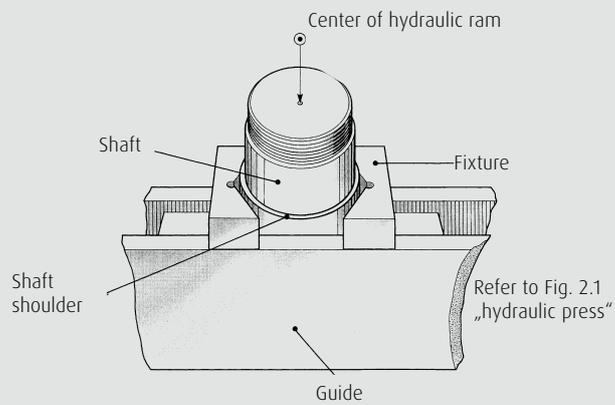
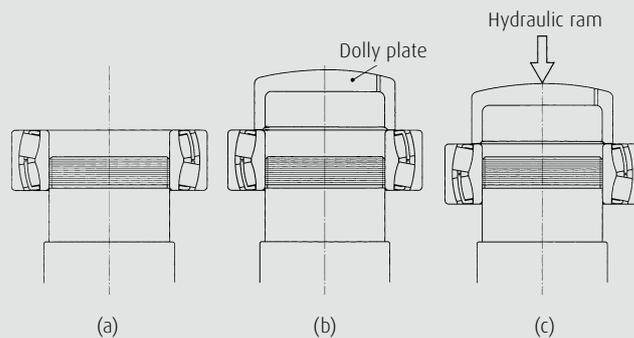

Fig. 6.2 Press method (fixing of shaft on table of press)
Fig. 6.3 Push-in of bearing with press
## 6.2.2 Press Method (Fig. 6.2 and Fig. 6.3)
1. Set upright the shaft and place its lower end on the table of a hydraulic press so that the shaft center mates with that of the ram of hydraulic press. Adjust the height of the guide of hydraulic press and fix the shaft at the lower part of its shoulder. **(Fig. 6.2)**
5. Insert the bearing so that the inner ring's chamfered part touches the dolly plate **(Fig. 6.3 (a))** as evenly as possible in the advancing direction. The aim is to create even contact between the flat face of the dolly plate and the inner ring end face on the shaft. **(Fig. 6.3 (b))**
6. Activate the hydraulic ram to push-in the bearing. Continue until the inner ring end face touches closely the shoulder of shaft. **(Fig. 6.3 (c))**